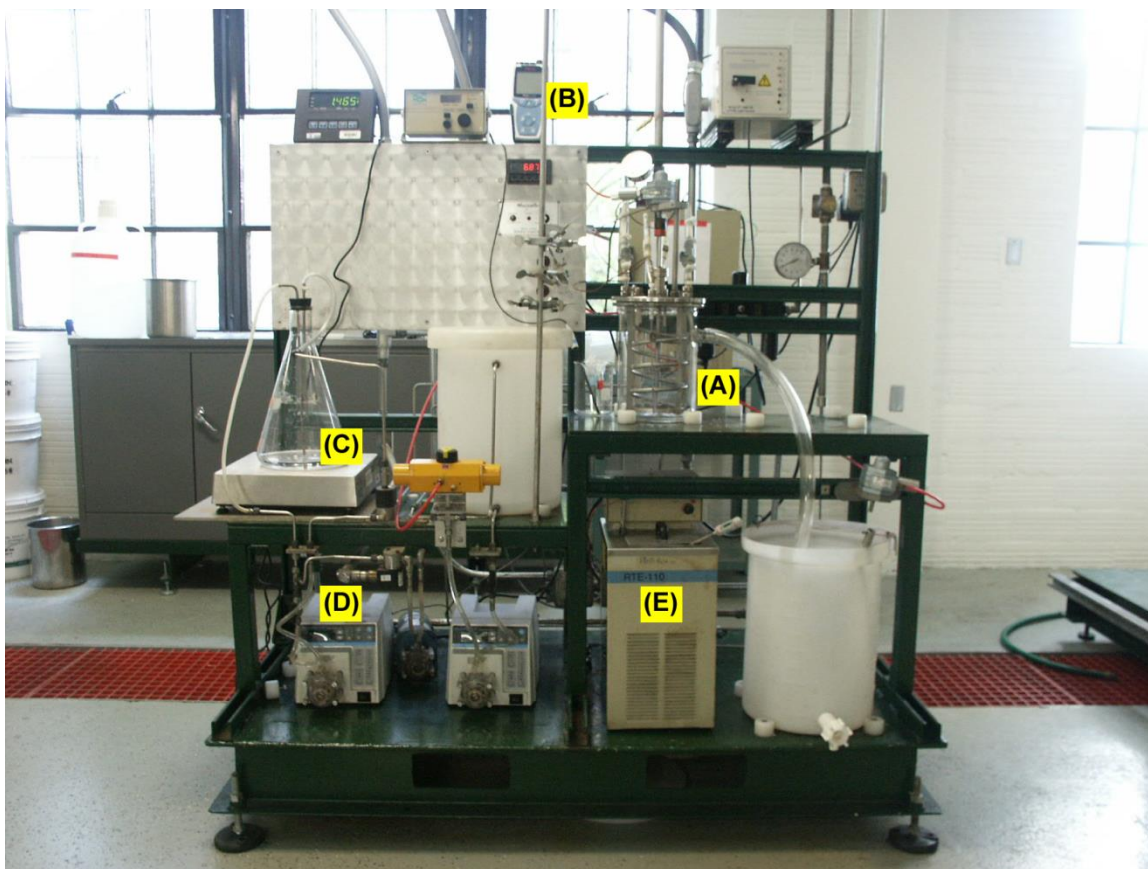

Figure 1: Photo of Crystallizer unit in antisolvent crystallization mode.
The crystallization apparatus employed in antisolvent crystallization mode is composed of a subset of the entire apparatus built originally for salicylic acid crystallization. The principal components include the crystallizer vessel with agitator, heat transfer coil (A); a conductivity meter (B); an ethanol feed flask for the antisolvent supply (C); a variable speed peristaltic pump for ethanol antisolvent addition (D); and a temperature-controlled circulating bath to heat or cool the contents of the crystallizer vessel through the heat transfer coil (E). Figure 1 below can be used to identify these components.